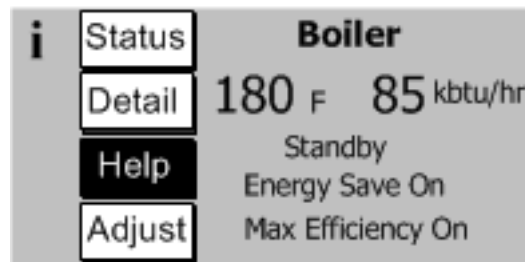

Figure 11.1c: Home Screen with Active Fault
13. If there is a problem that appears before the first try for ignition, or if the boiler fails to light after four tries for ignition, the “HELP” will blink on the Home screen (Figure 11.1c). Touching this “HELP” button will take the user to the Diagnostics menu where the cause of the problem can usually be found by pressing the flashing button on each successive screen. For more information, see Section XII “Operation”.